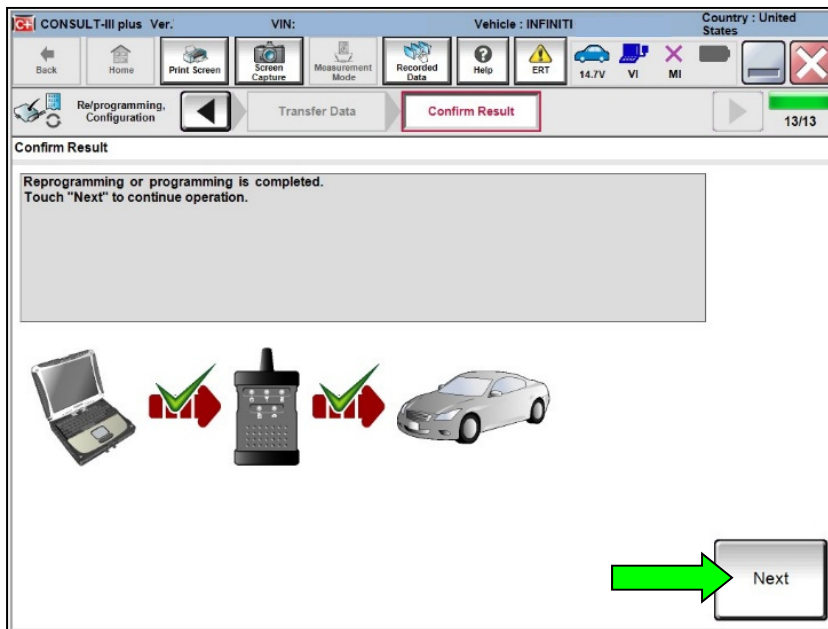

Figure 22
- When the screen in Figure 22 displays, the reprogramming is complete. Continue to step 39.
- If the screen in Figure 22 does not display (indicating that reprogramming did not complete), refer to the information on the next page.